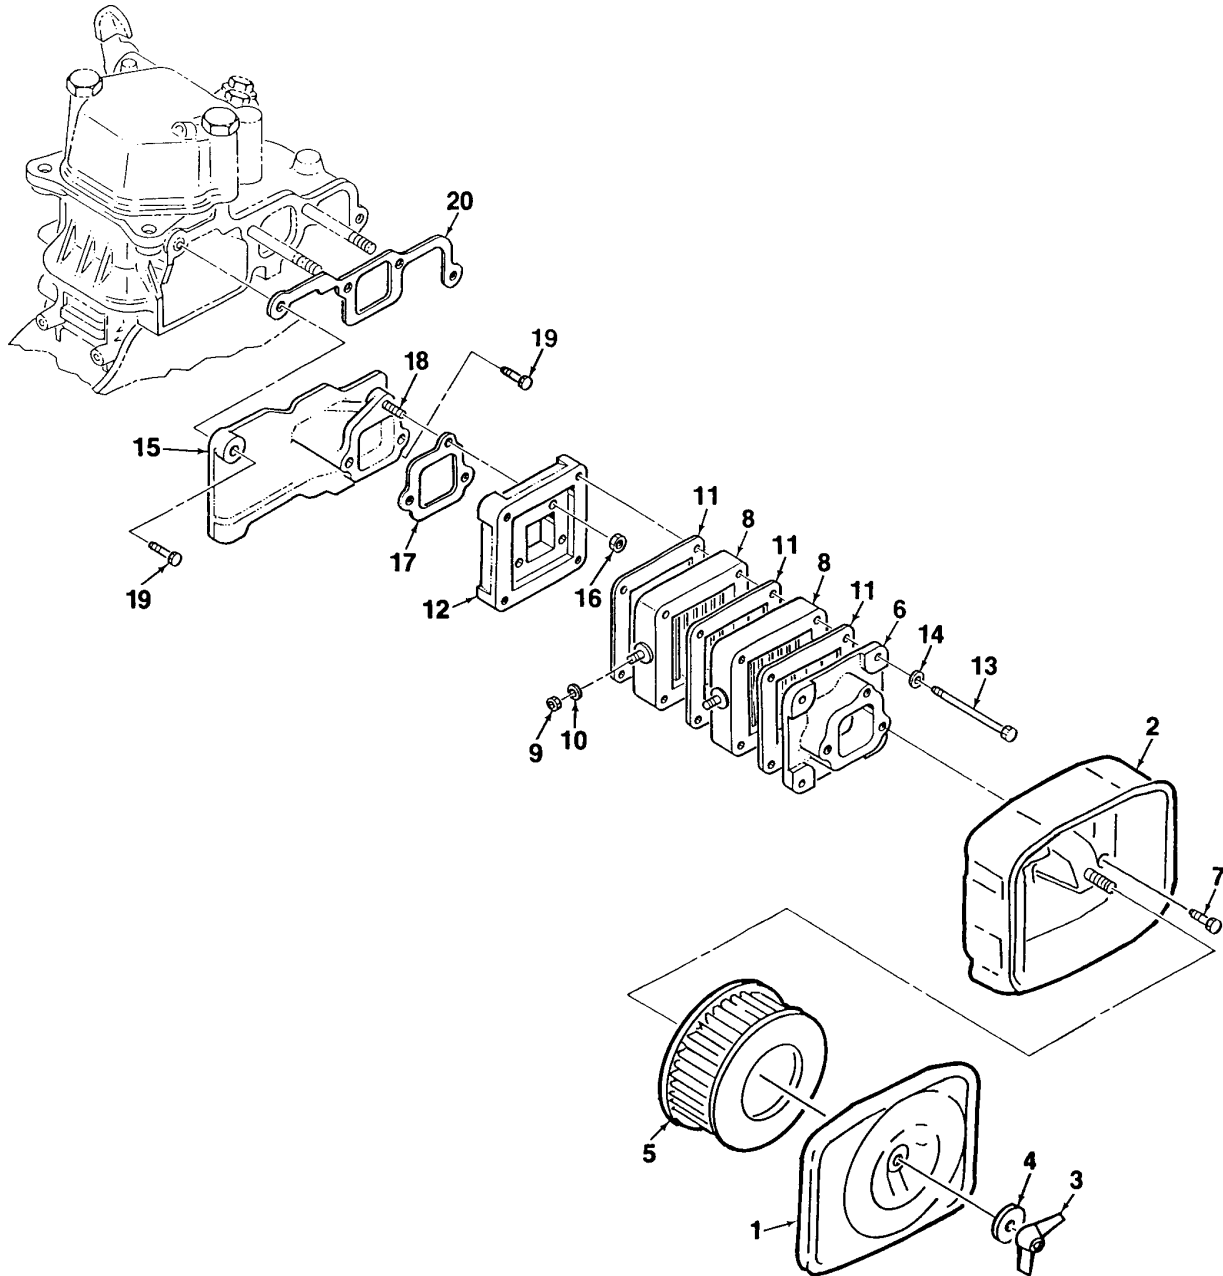

Figure 3-8. Air Cleaner Installation
1. Inspect cover (1, Figure 3-8), housing (2), adapters (6, 12), and air intake duct (15) for cracks, dents, or corrosion. Replace component if damaged to the extent that it will effect proper operation of the air filtering system.
2. Inspect air heaters (8) for obvious damage. Replace if damaged is suspected.
1. If removed, install air intake duct (15, Figure 3-8) and gasket (20) using two screws (19). Install studs (18).
2. Install adapter (12) and gasket (17) using three nuts (16).
3. Install adapter (6), air heaters (8) and gaskets (11) using four screws (13) and washers (14). Connect electrical wire leads to heaters using nuts (9) and washers (10).
4. Install filter housing (2) using three screws (7). Install filter element (5) into housing.
5. Install cover (1) onto housing (2) and secure using wing nut (3) and washer (4).